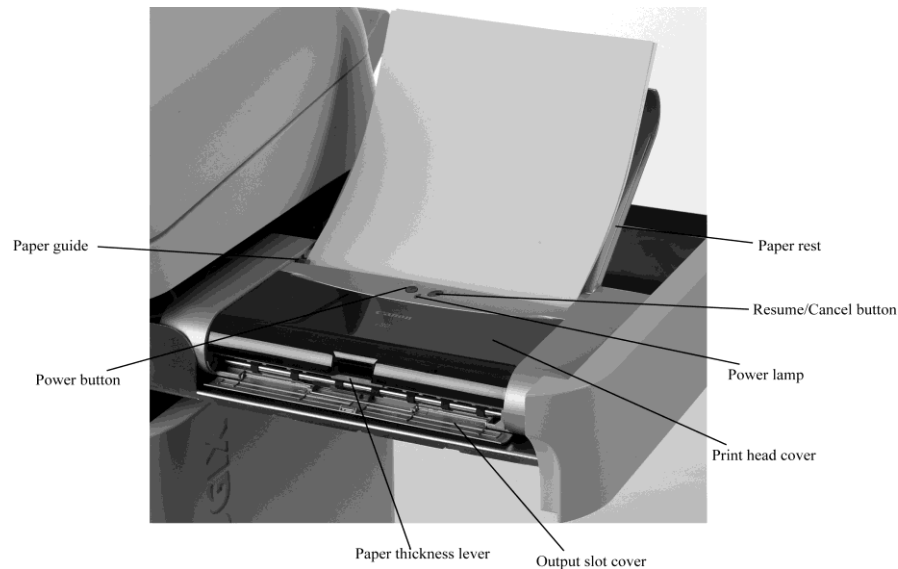

Figure 4-3. Printer overview
2. Open the paper rest and output slot cover (Figure 4-3).
3. Slide the paper thickness lever (Figure 4-3) to the right position.
5. Position the paper guide (Figure 4-3) against the left side of the paper.
1. Open the paper rest, and press the Power button (Figure 4-3). The power lamp, next to the Power button, will be green when the printer is ready (Figure 4-3).
2. Open the print head cover (Figure 4-3).
3. Press and hold the Resume/Cancel button (Figure 4-3) on the printer. When the power lamp flashes twice, the printer prints the nozzle check pattern.
2. Press and hold the Resume/Cancel button (Figure 4-3) on the printer. When the power lamp flashes once, the printer cleans the print head.
1. With the control unit main power off and the control unit unplugged open the printer access drawer (Figure 4-3).